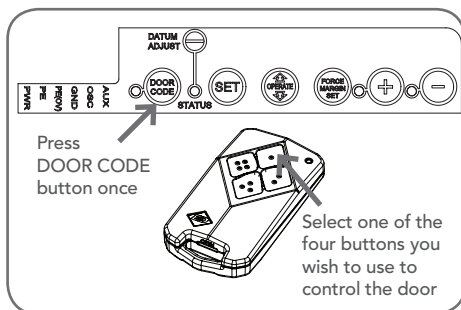

Fig. 8.1
- Press the DOOR CODE button and release. The DOOR CODE LED will illuminate to indicate the opener is in Code Learn mode. If a valid code is not stored within 15 seconds the opener will exit Code Learn (**Fig. 8.1**).